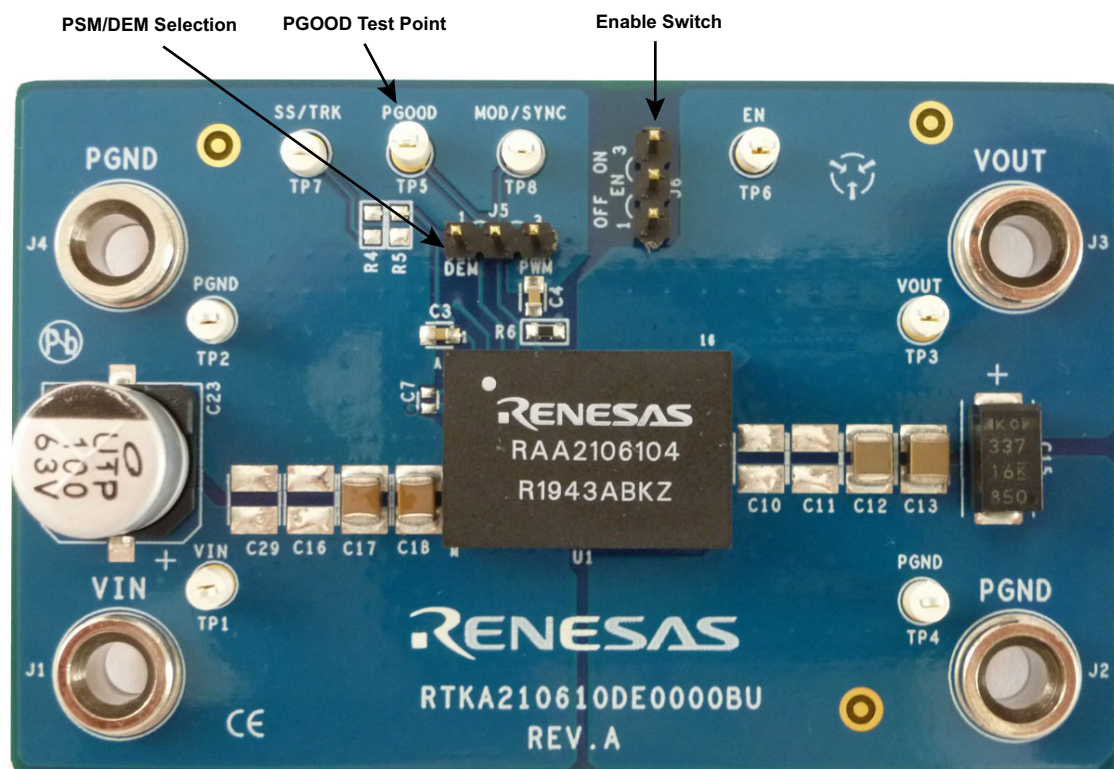
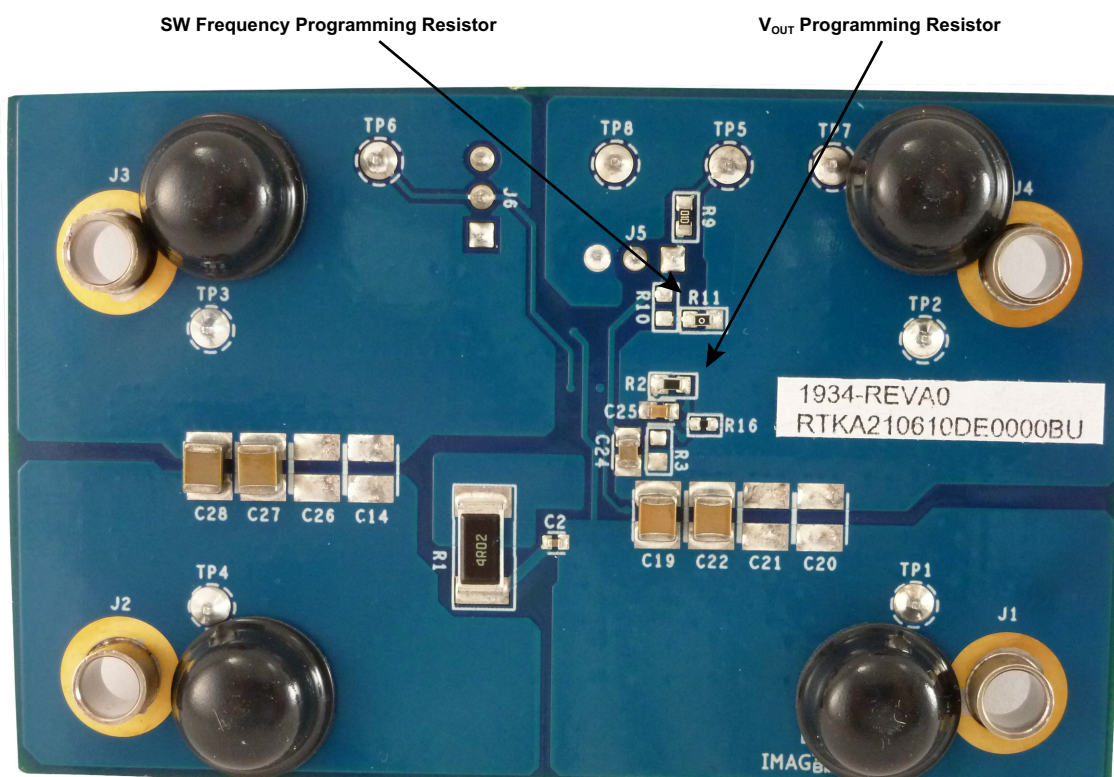

Figure 2. Top of Board
Figure 3. Bottom of Board
The RTKA210610DE0000BU provides the peripheral circuitry to evaluate the feature set of the RAA210610. The evaluation board includes several connectors, test points, and jumpers that simplify the validation of the module. The converter is enabled and disabled by moving the jumper across the EN pin as shown in Figure 2 on page 5. Connecting a jumper across the MOD/SYNC pin and VCC (as shown in Figure 2) enables the PSM/DEM mode of operation, which can lead to higher efficiencies at light loads. Resistors R_4 and R_5 are used to evaluate the tracking functionality. Selecting features like external frequency synchronization is performed by connecting the signal generator (square pulse waveform clock signal) to the MOD/SYNC pin. The output voltage (0.6V - 12V) and the switching frequency (300kHz to 2MHz) are programmed by changing the resistors as shown in Figure 3 on page 5.
1. Disable the module by moving the jumper across the EN pin as shown in Figure 2 on page 5.